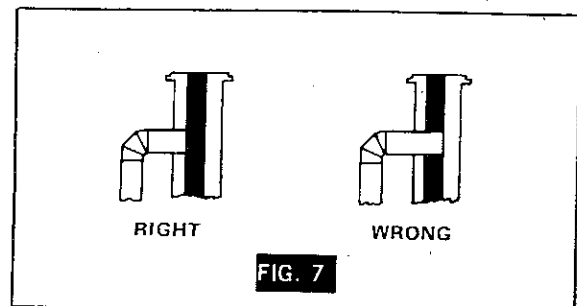

FIG. 7
4. Be sure the pipe does not extend into the chimney flue (Fig. 7).